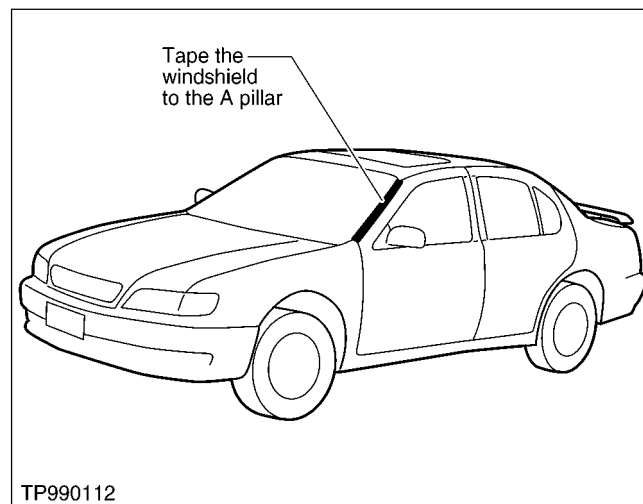

Figure 2. Windshield side molding
2. On both sides of the vehicle, apply high quality masking tape to cover the seam between the windshield and the A pillar (across the side molding) along the height of the windshield (see Figure 2).